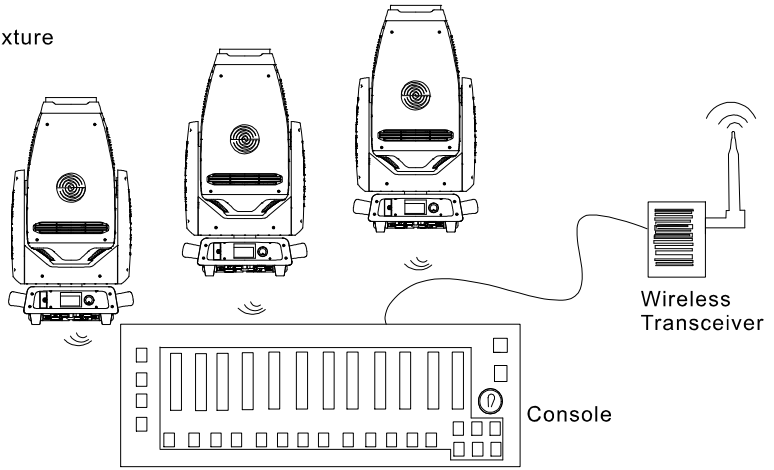

Fig.4.3-6
- (b) Press emitter button to search preset address within a fixture. When it's done, remotely control a fixture through a controller, Shown as Fig. 4.3-6.